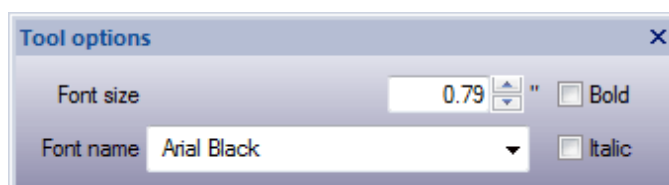

Figure 2.38: Tool options bar – Text options
29. Type "I love you." You can change the Font by selecting a different one from the **Font name** drop-down menu on top of the screen. You can also change the **Font size** by typing its dimensions. (Figure 2.38). If you want the text to be **Bold** or **Italic**, click on one.
30. For this tutorial, the options were made as shown in Figure 2.38. If you've been following this tutorial on your screen, left click on the **Rectangle selection** tool  from Tools toolbar to confirm our changes.